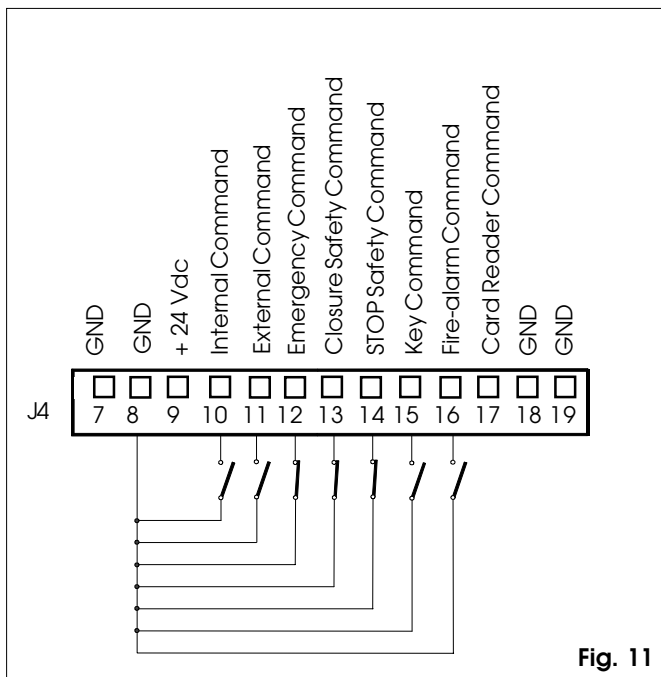

Fig. 11
⑤ **J4 TERMINAL BOARD** Inputs Connection (figs. 11, 12, 16)